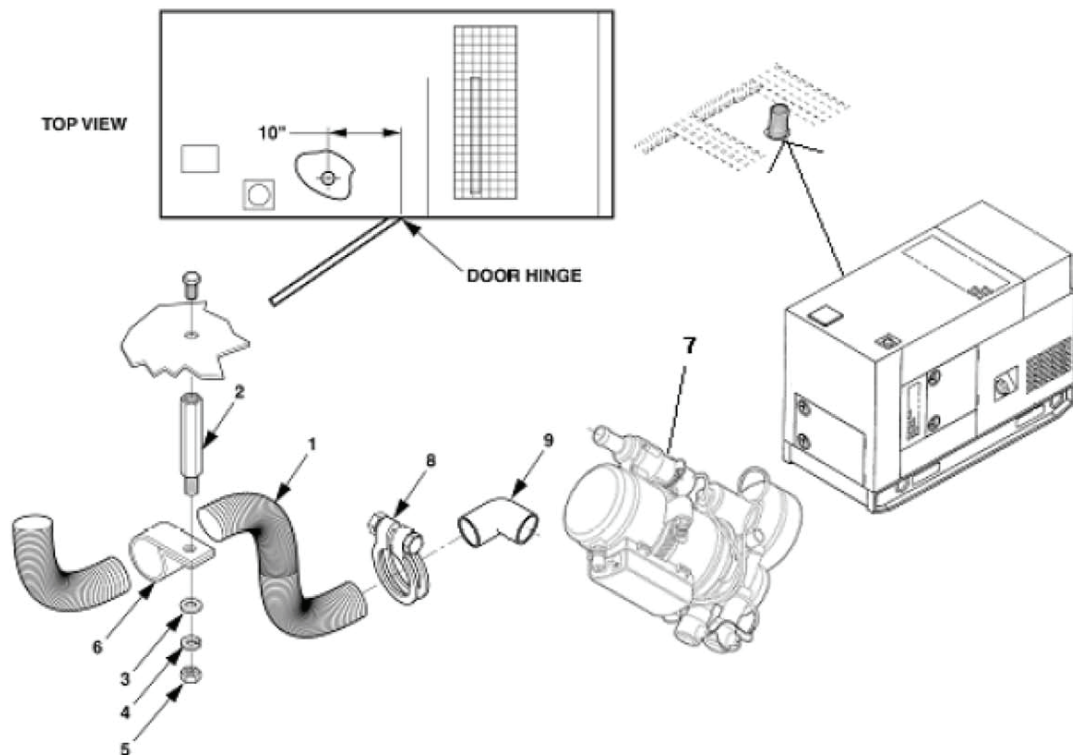

Figure 8. Exhaust Hose Removal.
WP 0169, Figure 8, Items: 1 & 5**Equipment Condition**Grounded, Off & Operational
4. Open control panel access door (WP 0169, Figure 8, Item 1).
6. Remove toggle switch (WP 0169, Figure 8, Item 5), indicator light (6), and heater switch label (7) from instrument panel (8). Remove rivets (4) from function code plate (3) and operating plate (2). Remove function code and operating plates (3 and 2) from control panel door (1).
14. Remove exhaust hose (Figure 8, Item 1), spacer (2), nut (5), lockwasher (4), flat washer (3), and clamps (6 and 8). Remove exhaust elbow (9) from heater (7). Screw is secured with nut. If necessary, add spacer to prevent threads from protruding.